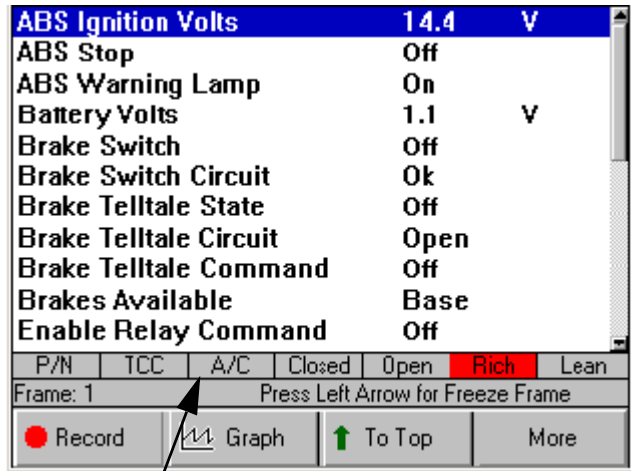

Figure 4.22: Datastream Screen - LED Bar Displayed
- 3 Press the **ENTER** key. (See Figure 4.22 on page 31.)